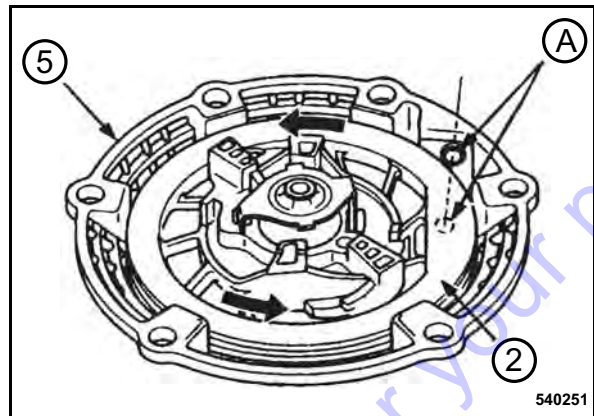

Fig. 64
- Before assembling the rope turn the coil (2) (Fig. 64) 5 revolutions in anti-clockwise direction and align the rope openings in coil and housing (5) to each other (A).